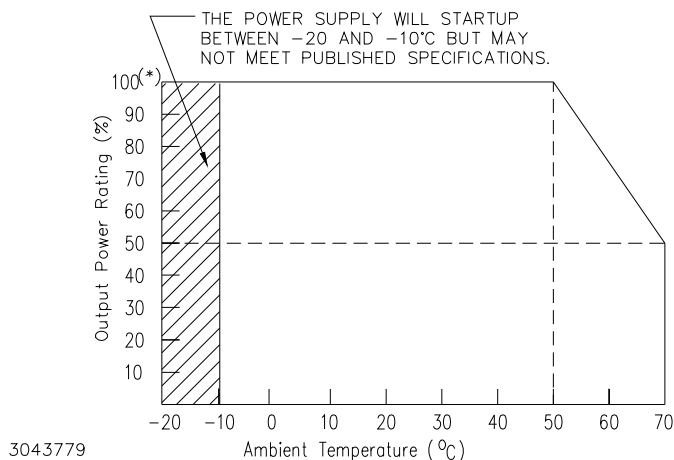

FIGURE 2. POWER RATING VS. TEMPERATURE
- (1) To adjust output voltage down to approximately 0V requires that DIP SW1, position 7 be set to ON. Refer to Table 5 for minimum conditions required to maintain proper operation of alarm relay, meter (AM Models only) and VDC ON/ALARM indicator.
- (2) Using trimpot to attain voltages outside the specified adjustment range may trigger overvoltage (PAR 3.6.1) faults. Recovery is by removing, and after approximately 40 seconds, reapplying AC input power or by reset (open and close) at ±RC terminals (no delay).
- (3) See Figure 2 for power derating.
- (4) CAUTION: The unit may be damaged if operated under overcurrent or shorted conditions for more than 30 seconds. If current exceeds limit (105% of nominal), output voltage starts to drop. If overload condition continues, current up to 130% of nominal may be experienced.
- (5) Constant current limit with automatic recovery (see PAR. 3.6.2).
- (6) When overvoltage is detected, output is shut OFF. Recovery is by removing, and after approximately 40 seconds, reapplying AC input power or by reset (open and close) at ±RC terminals (no delay).
- (7) Measure with JEITA RC-9131A probe, bandwidth of scope: 100MHz.